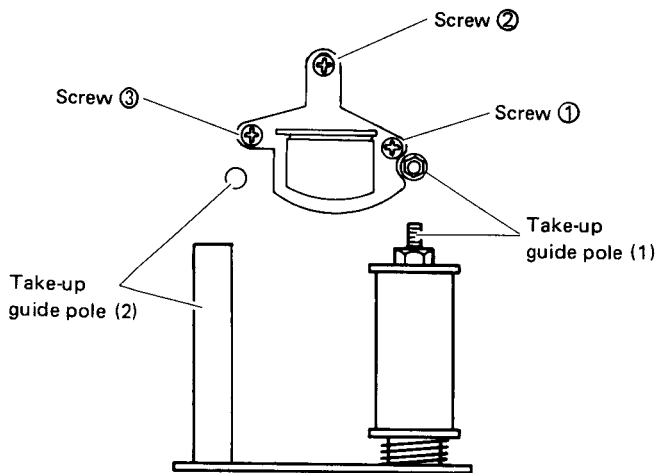

Fig. 2-6-2 A/CTL head adjustment
1. After completion of the take-up guide roller adjustment, adjust the A/CTL head's inclination so that the tape runs smoothly along the flange of the take-up guide pole. This adjustment can be performed by turning the screw ② with a precision screwdriver (cross-head, ⊕). See Fig. 2-6-2.